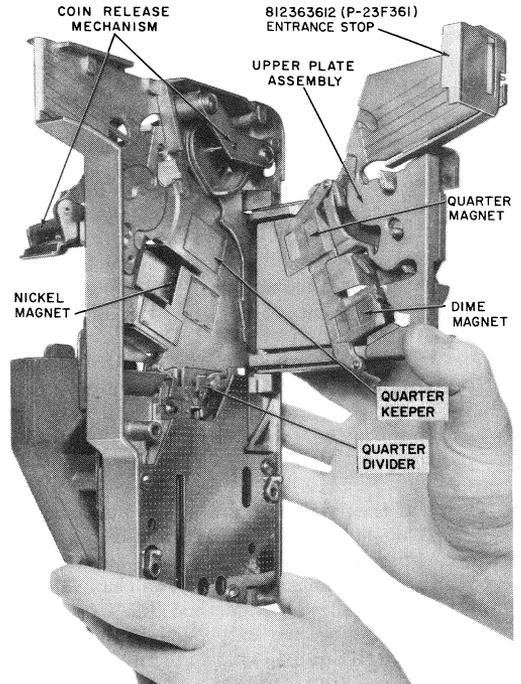

Fig. 39—Chute
- (1) Remove coin cover unit (1-type) or open door and faceplate assembly (2-type).
- (2) Remove chute-totalizer.
- (3) Swing upper plate assembly open (Fig. 39).
- (4) Where possible, use an orange stick to remove any foreign objects or stuck coins. Do not use screwdriver. Do not loosen chute assembly screw.
- (5) Clean off any foreign material adhering to chute magnets using a suitable typewriter brush or equivalent.